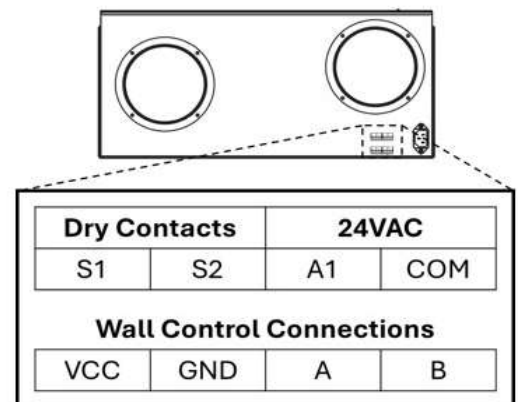

FIGURE 5:
11. Connect the wall control wires to the corresponding connections on the ventilator unit. See Figure 5.